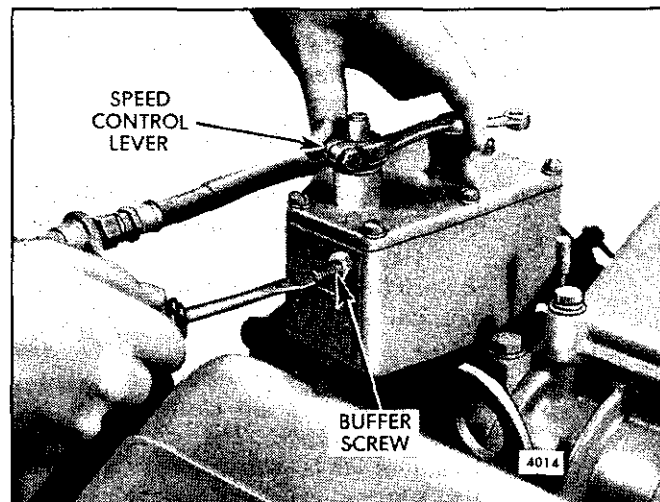

Fig. 10 - Adjusting Buffer Screw
1. With the engine running at normal operating temperature, turn the buffer screw in so it contacts the differential lever as lightly as possible and still eliminates engine roll (Fig. 10).